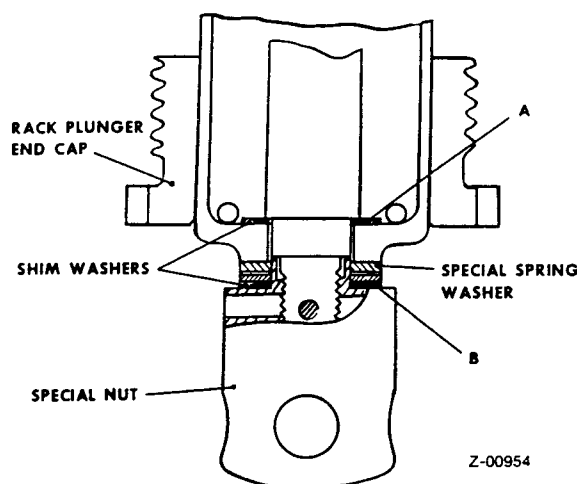

Fig 5 Adjusting the timing
13.4 Fig 5 shows the nominal setting of the time-release unit with the shim washers in position. To adjust the timing proceed as follows: